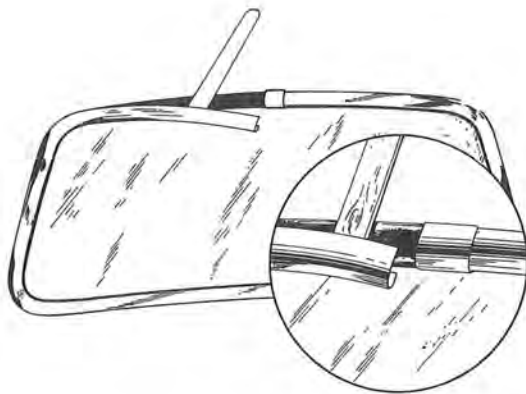

Fig. 8-20. Removing the trim moulding
3. Remove the trim moulding by prising out the ridge of the rubber strip from the trim moulding with a moistened wooden putty knife and releasing the trim moulding in the middle with another putty knife as shown in Fig. 8-20. Lever off the moulding carefully while releasing the rubber strip with the other putty knife.